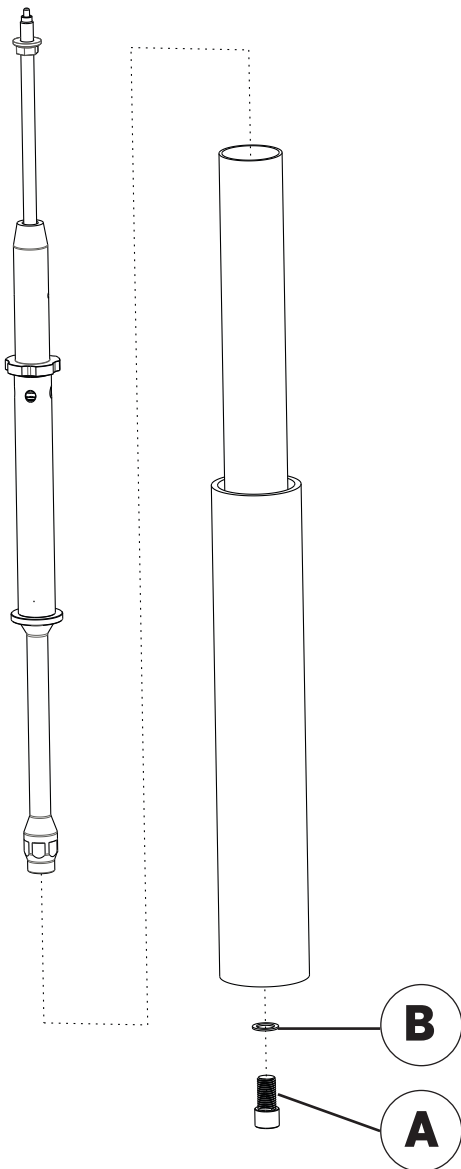
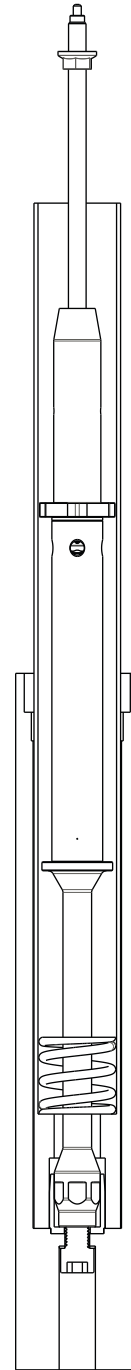

Fig. 8: Install the cartridge (compression leg shown)
Fig. 9: Install the cartridge (compression leg shown).
5. Insert the cartridge assembly: the rebound cartridge installs into the right fork leg (throttle side), and the compression cartridge installs into the left fork leg (clutch side). Confirm that the installation matches the diagram (Fig. 8 and Fig. 9).